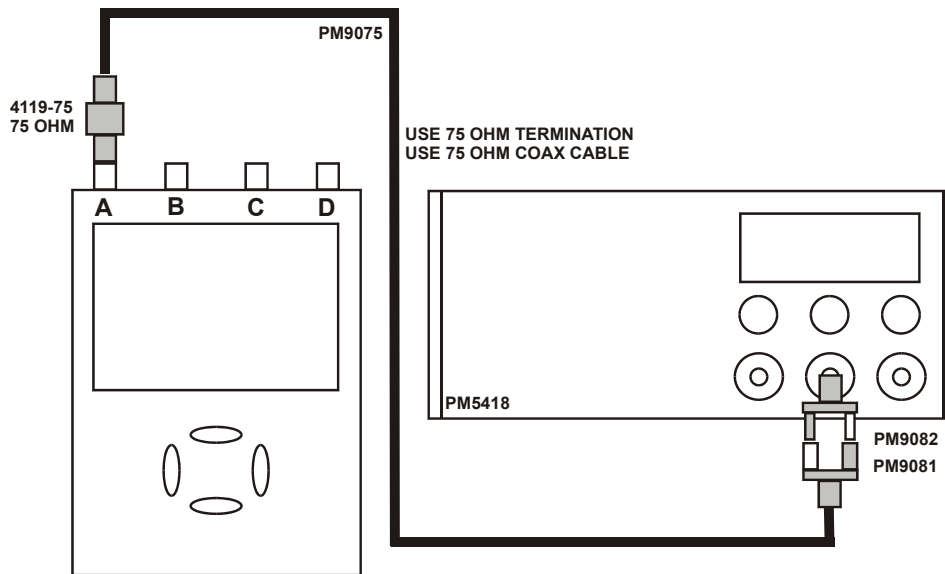

Figure 4-16. Test Tool Input A to TV Signal Generator Inverted
7. Apply the inverted TV Signal Generator signal to the Test Tool. Invert the signal by using a Banana Plug to BNC adapter (Fluke PM9081/001) and a Banana Jack to BNC adapter (Fluke PM9082/001), as shown in Figure 4-16.